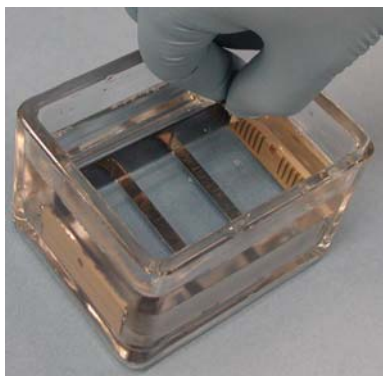

Figure 127 Placing BeadChips in Wash Dish Containing WB1
5. Carefully slide the BeadChips into the wash rack, making sure that they are completely submerged in the WB1 (Figure 127).